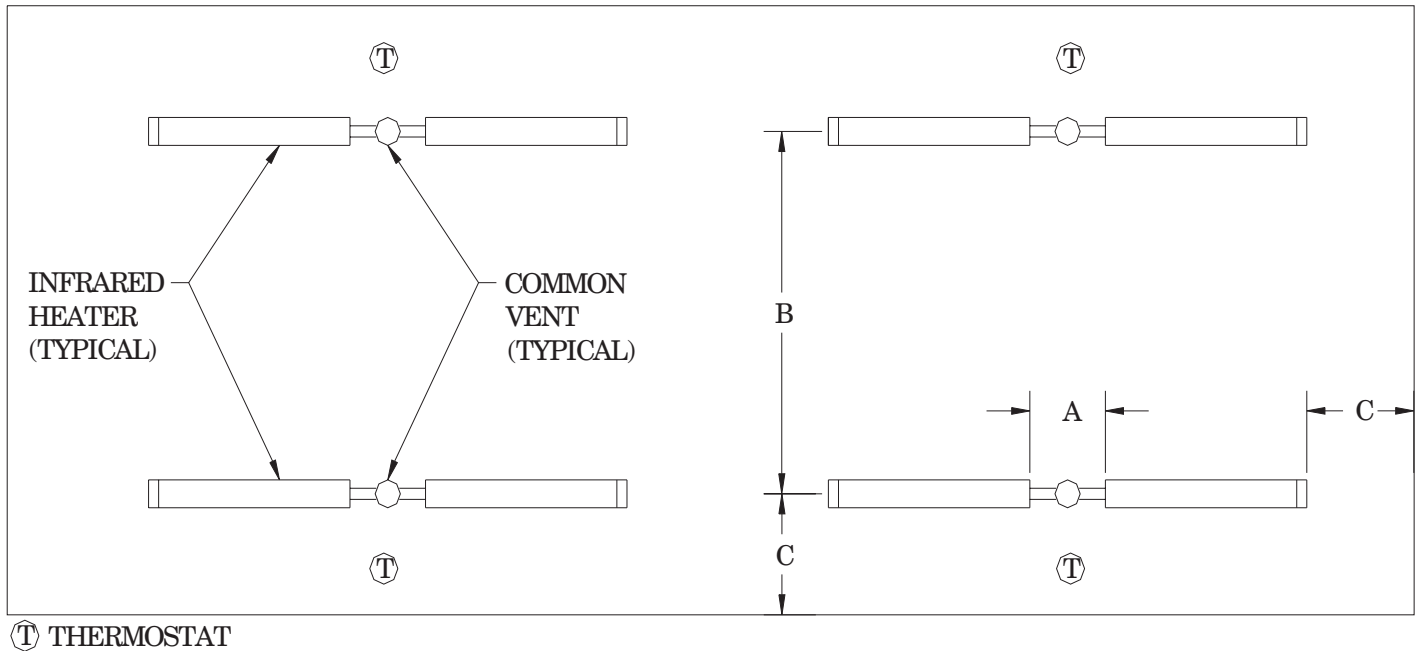

Figure 2.1.1
Perimeter mounting of these infra-red heaters provides for the most efficient installation. In figure 2.1.1, the heaters are mounted at the perimeter of the space to be heated. Refer to the Heater Installation Chart for the recommended distances on
- \* Do not combine the exhaust vents of two heaters into a straight-through tee. A Part Number BR-YA, BR-YG, or staggered-tee arrangement must be used. Heaters sharing the same vent must share the same thermostat. Common vents must have 6 in./15.2cm Diameter ( see Figure 2.1.1).